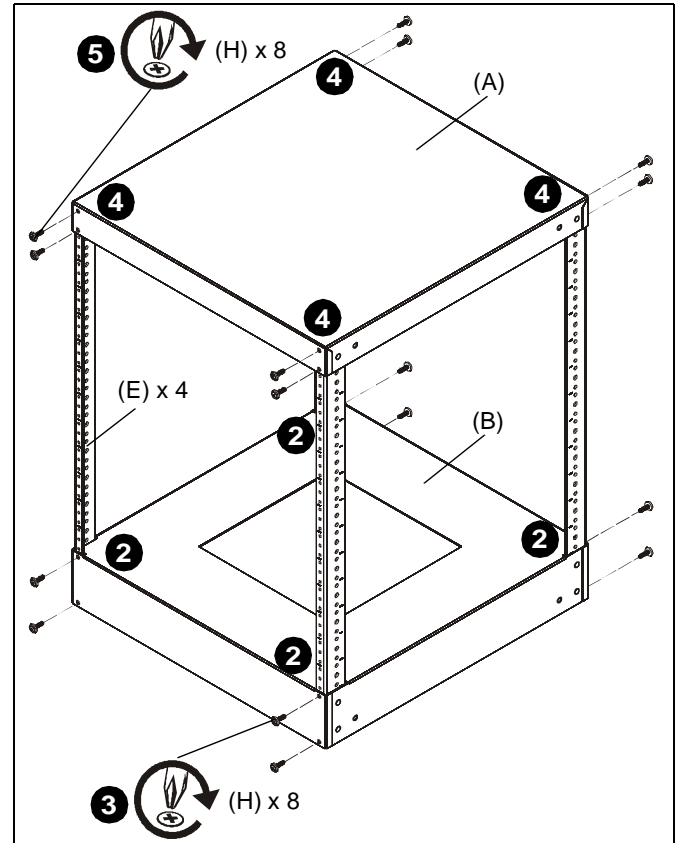

Figure 2
2. Insert four rack rails (E) into rack base (B) at each corner, lining up the corresponding holes for installation. (See Figure 2)
3. Use eight Phillips truss screws and washers (H) to secure rack rails (E) to rack base (B). (See Figure 2)
4. Set rack top (A) on top of rack rails (E), lining up corresponding holes for installation. (See Figure 2)
5. Use eight Phillips truss screws and washers (H) to secure rack rails (E) to rack top (A). (See Figure 2)